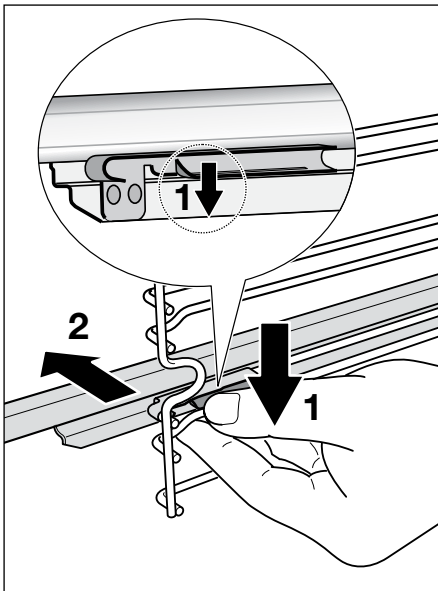

Fig.38 Removing the sliding shelf supports
- 3 Find the safety locks. These are the tabs that clip over the wire of the side rack (arrow 1 in Fig. 38).
- 4 Pull the safety locks away from the wire to release the wire (arrow 2 in Fig. 38)